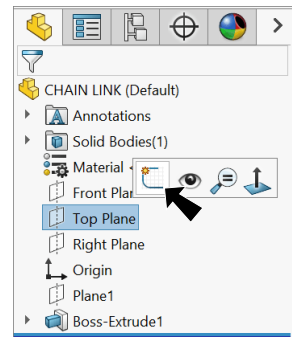

Fig. 10
Step 1. Click **Top Plane**  in the Feature Manager and click **Sketch**  on the context toolbar, **Fig. 10**.